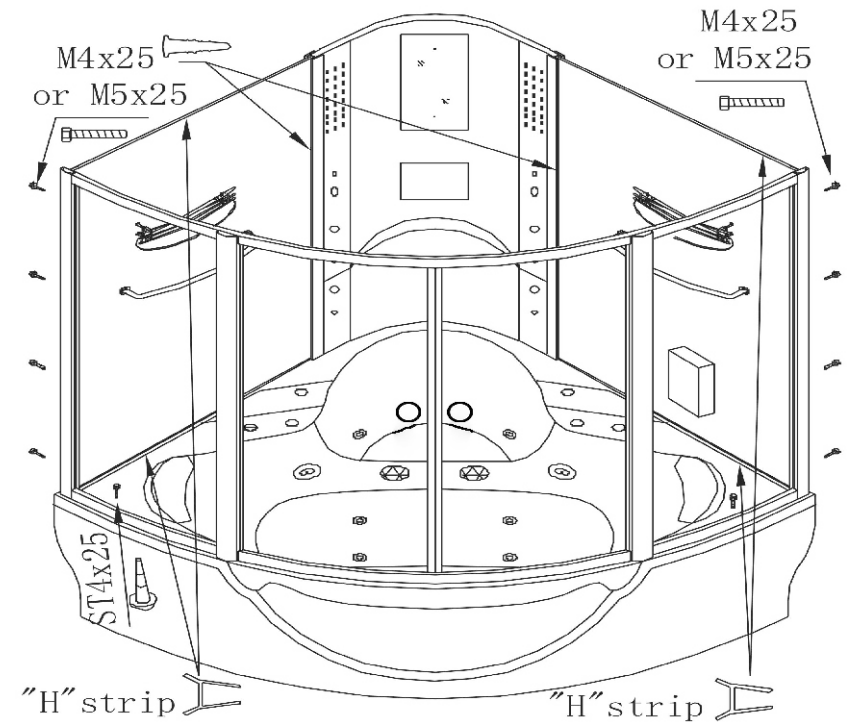

Fig.6
5. Install the door assembly and the glass--Put the door assembly onto the tub, install the rack  Towel rack,  Foot massage machine  and other parts trough of the two sides of themid-wallboard. The other side, use the M6 bolts to connect the holes of the side aluminium, put the “H” strip  into the two ends of the side glass. (As the Fig.6)